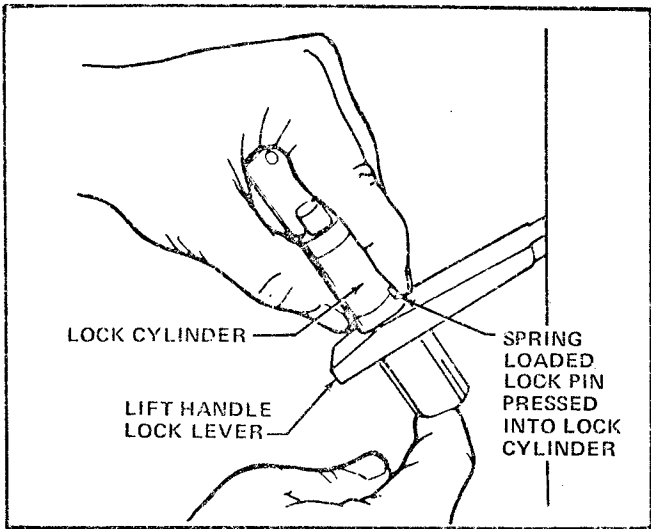

FIGURE 2
2. Raise the Lift Handle Lock Lever and turn the Lock Cylinder so the Spring Loaded Lock Pin is on top. See Figure 2. Press in on the Spring Loaded Lock Pin and insert the Lock Cylinder into the Lock Cylinder Hole of the Lift Handle Lock Lever.